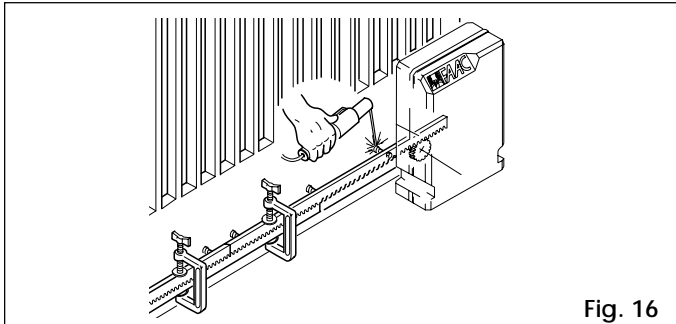

Fig. 16
- 5) Place another rack element next to the first and use a section of rack to set the teeth of the two elements in phase as shown in Fig. 16.
- 4) Place another rack element next to the first using a section of rack to set the teeth of the two elements in phase as shown in Fig. 16.